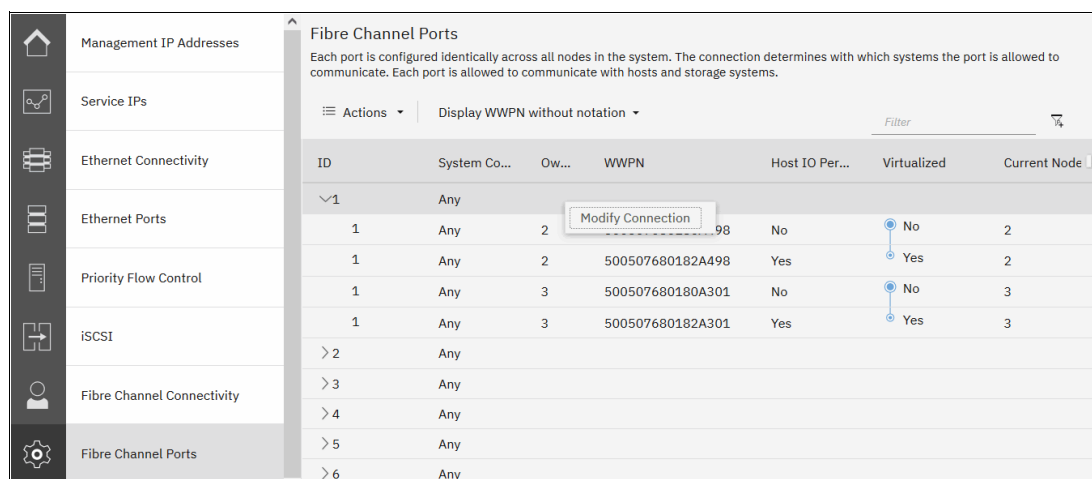

Figure 3-48 Applying a port mask by using a GUI
2. Right-click a system port ID that you want to change and select **Modify Connection**, as shown in Figure 3-48.